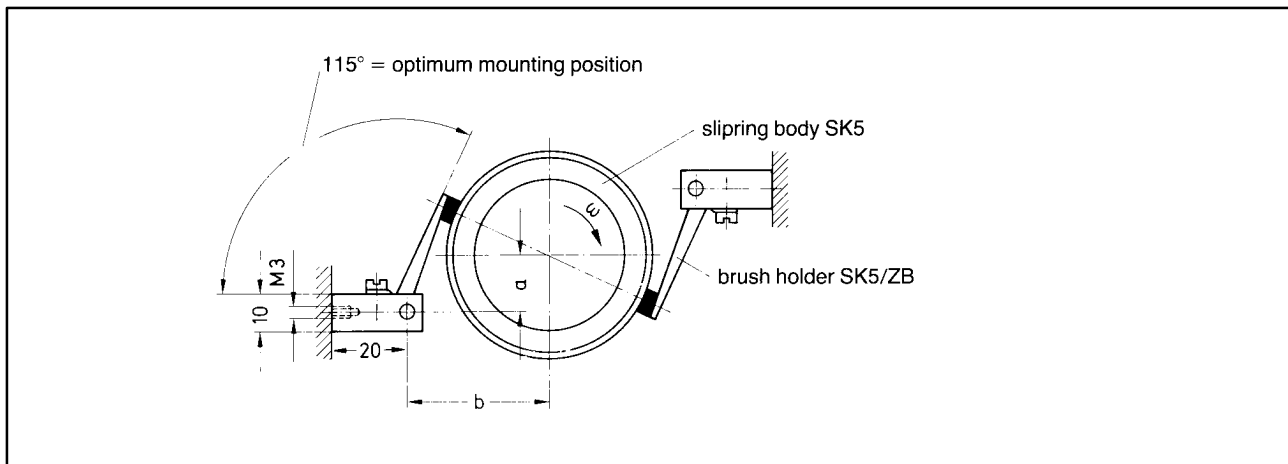

Fig. 10.1: Slipring body SK5 with brush holder SK5/ZB, mounting example
Two brush holders SK5/ZB with five brushes each complete the slipping body to form the assembly. The five brushes are arranged for signal transmission on the holder. They can move about a common bolt and springs will provide the necessary mechanical pressure. Two holes with M3 thread are for the mounting of the brush holder. Thus the fixing can be designed according to the requirements. The optimum arrangement of slipping body and holder is shown in Fig. 10.1.
4. The brush holders shall be arranged at opposite sides of the shaft (see fig. 10.1). This is precondition for a safe signal transmission. The brush holders shall be mounted in such a way that the brush underneath the black clamping screw is associated with the first slipping next to the cable outlet. The clamp connections marked with colours on the brush holder will then be in the same sequence as cable core colours of the slipping body.